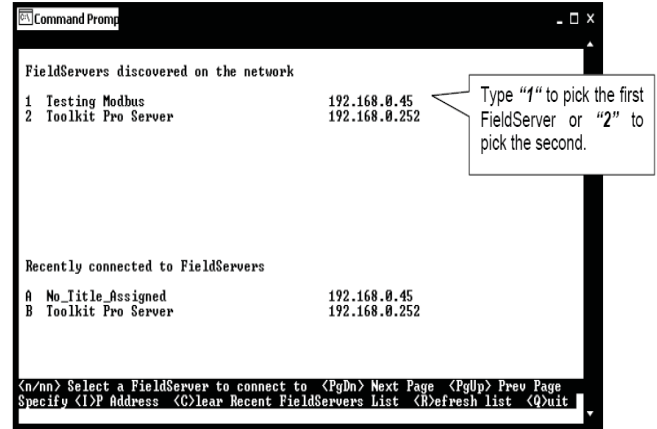

Figure 10: RUINET PT-Link II Selection Menu
5.) On subsequent connections, a list of PT-Links that have been recently connected may appear under the message "Recently connected to FieldServers". Select the required PT-Link II by typing the Number or Letter in the left hand column. (Figure 10).